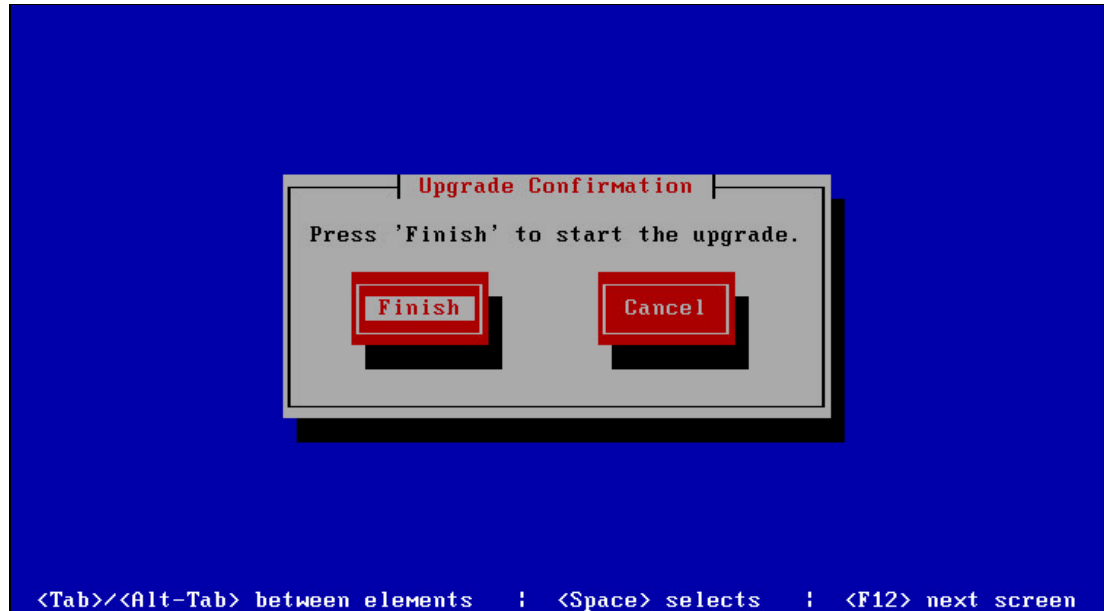

Figure 3-129 Upgrade Confirmation
7. A confirmation window prompts you to confirm the upgrade (Figure 3-129). This is the last point at which the upgrade can be canceled.